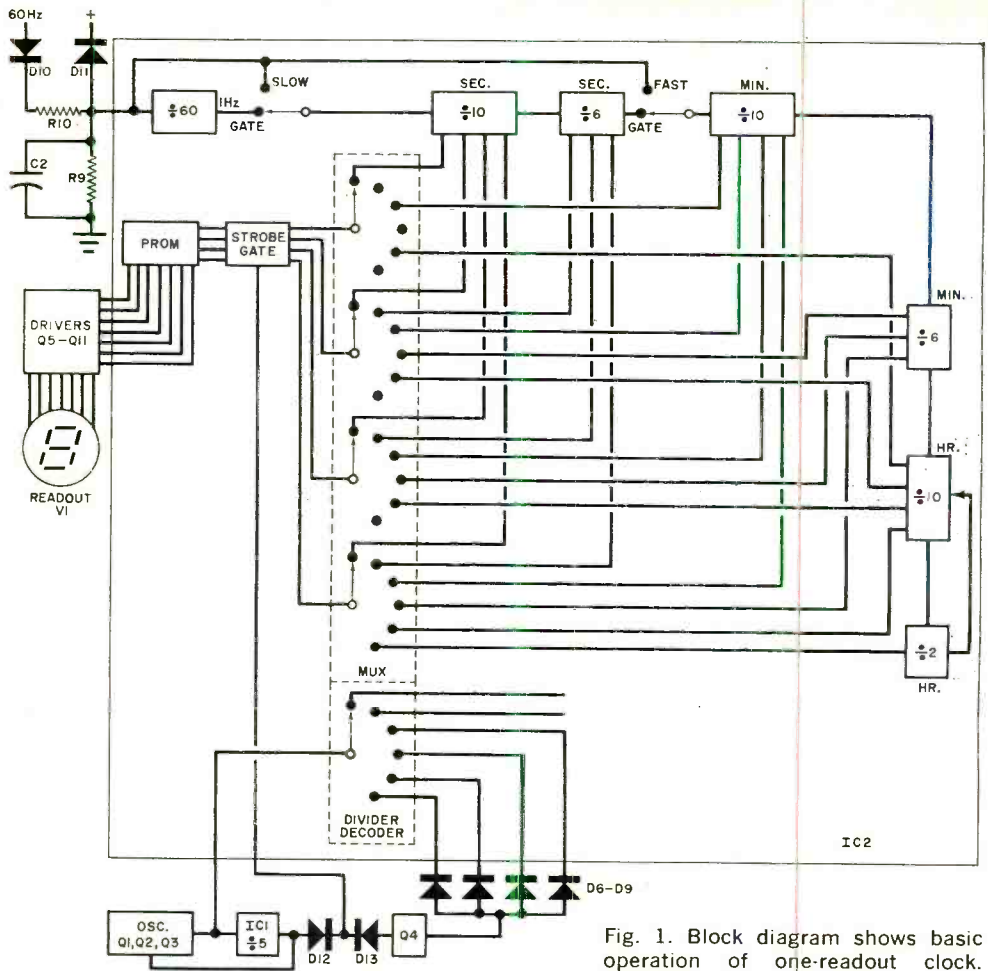

Fig. 1. Block diagram shows basic operation of one-readout clock.
The circuit shown in Fig. 1 can be assembled on a small piece of perf board or a PC board. In either case, the smaller the better. To avoid electromagnetic shielding, the outer case must be either plastic or Bakelite. Do not use a metal case. Pick a size that can accommodate the radio, the small board and two 9-volt batteries. Light duration control *R1*, the normally closed pushbutton reset switch *S2*, the thunderstorm light, the Son-alert, and the power switch are all mounted on the front (plastic) cover of the case.
and connect the two leads as shown in Fig. 1. This should also silence the radio.
**Circuit Design.** A block diagram of the clock circuit is shown in Fig. 1, while the schematic is in Fig. 2. As in most ac digital clocks, the time base is the 60-Hz power-line frequency which is applied to a shaping circuit (*D10*, *D11*, *R9*, *R10*, and *C2*) for squaring and removal of transients. An array of flip-flops within *IC2* counts the 60-Hz input and provides one output pulse for every 60 input pulses (1 Hz). A binary coded decimal counter (BCD) totals the 1-Hz pulses and provides four output lines for display of the seconds count. (Though the seconds are not displayed in the clock described here, they are counted in the IC.) A fifth line provides one pulse every 10 seconds for the tens-of-seconds BCD count-